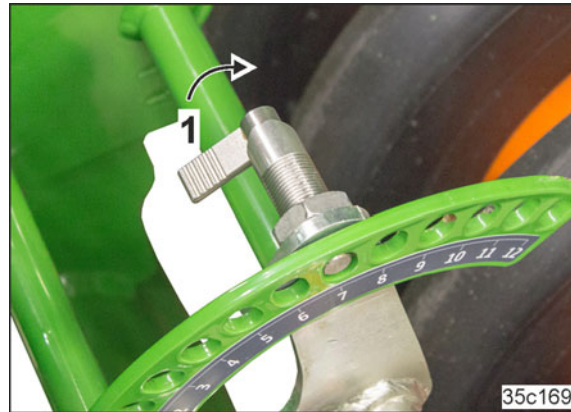

Fig. 128
2. Release the locking pin by turning it (Fig. 128/1).